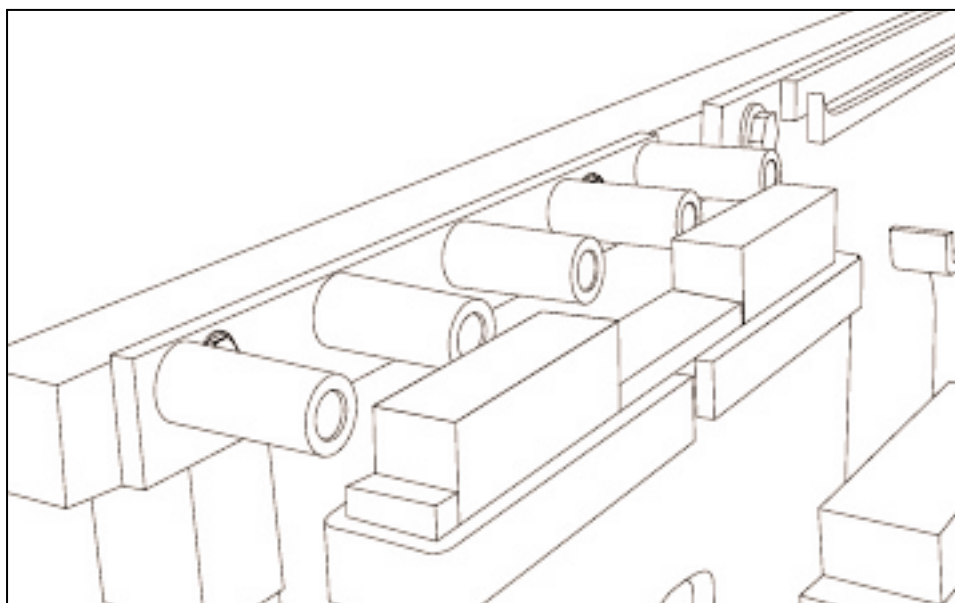

Figure 6.12 ADJUSTING THE BLOCK MOVING BAR FINGERS.
6.2.6 Adjust block fingers to center them with the pallet receiver rubbers (see figure 6.12).